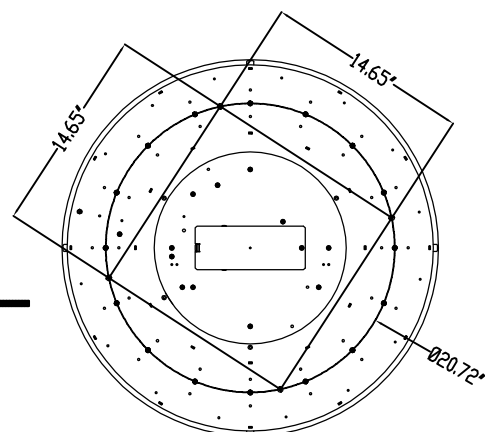

Fig.2 Aircraft Cables Mounting Layout
2. Attach four aircraft cables to sub-structure above the ceiling according to the mounting layout on Fig.2